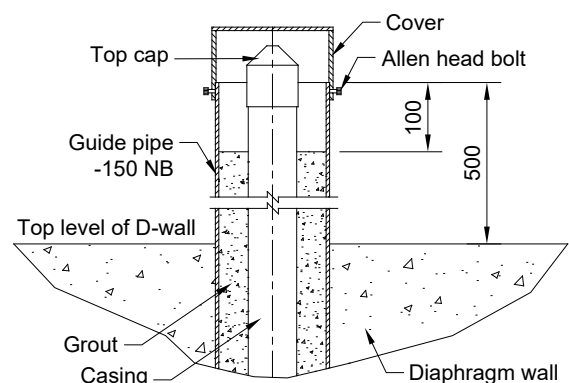

Figure 8-4 Protection of casing in diaphragm wall
NOTE: Depth of top of grout face from top of steel casing should be at least 100 mm (125 mm from ABS casing top) as shown in figure 8-4. This is necessary for fixing pipe extension jig over casing for taking readings.
- c. When not taking readings, the gage well should be protected with cover fixed to top of steel casing by four M6 Allen head bolts (figure 8-4).